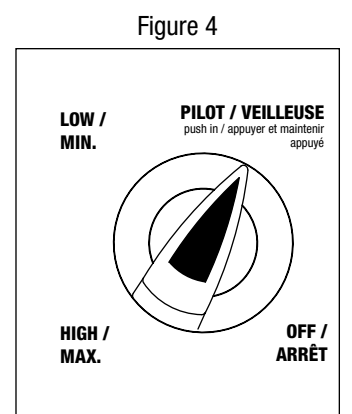
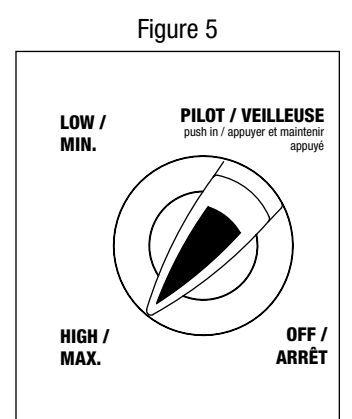

Figure 4
Figure 5
4. Push control knob in and rotate to "PILOT" position. (Figure 4)
5. Immediately push igniter button for five (5) seconds. Pilot light flame will appear and be visible through viewing hole.
8. Turn control knob to "HIGH". (Figure 5) Main burner will light immediately. Flame is visible through viewing hole. If not, turn control knob "OFF", wait 5 minutes, and repeat lighting procedure.